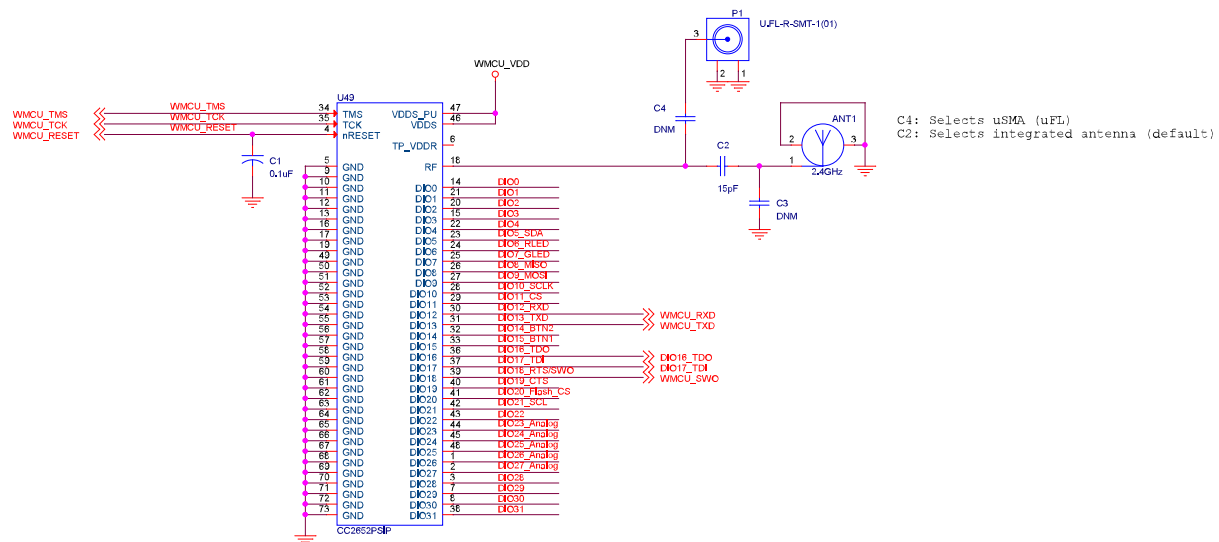

图 10-1. CC2652PSIP Typical Application Schematic
图 10-1 shows the typical application schematic using the CC2652PSIP module. For the full reference schematic, download the LP-CC2652PSIP Design Files.
表 10-1 provides the bill of materials for a typical application using the CC2652PSIP module in 图 10-1.
In order to meet the module power-on-reset requirements, an external 0.1 μ F capacitor is required on the nRESET pin during power ON. In addition, VDD5 (Pin 46) and VDD5_PU (Pin 47) should be connected together. If the reset signal is not based upon a power-on-reset and is derived from an external MCU, then the external capacitor will not be needed and VDD5_PU (Pin 47) should be No Connect (NC). Please refer to 图 10-1 for the recommended circuit implementation and 表 10-1 for the recommended 0.1 μ F capacitor.